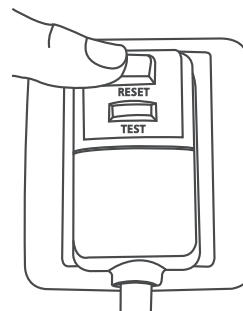

Figure 1
3. Press the RESET button. Again, you will notice a click as the button engages. (See Figure 1)